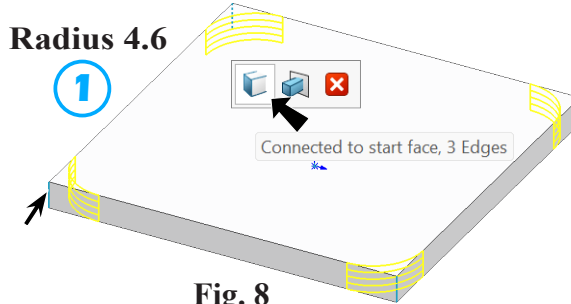

Fig. 8
① **Radius**  **4.6**
click **vertical edge of Battery Cover (1)**, Fig. 8